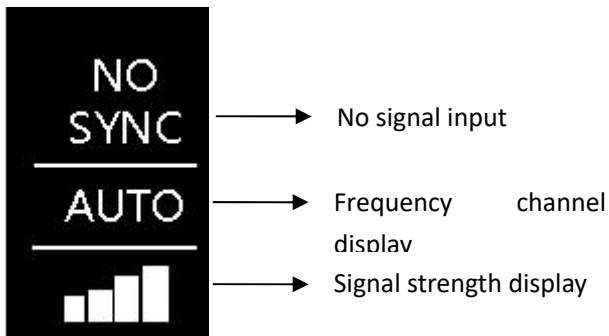
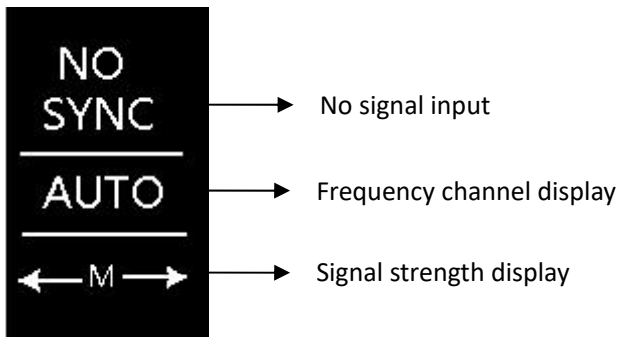

Fig. 1
Fig. 3
- (11) **SDI OUT:** SDI : See Fig. 1
- (12) **DC in:** Support 7~34V wide voltage input.
See Fig. 1
When the transmitter has no signal input, see Fig. 3
(3) Switch on both FLOW6500 transmitter and receiver, “Power” indicator light up, OLED screen show “WAIT...” then jump to initial interface, see fig.1 or fig.3; Wait until “Link” and “Video” indicator light up, the transmitter and receiver have identifiable signal inputs and connected successfully. If the transmitter and receiver have identifiable signal inputs but fail to establish a connection, the “link” indicator will flash.
“Power” indicator light up, OLED screen show “WAIT...” then jump to initial interface, see fig.1 or fig.3; Wait until “Link” and “Video” indicator light up, the transmitter and receiver have identifiable signal inputs and connected successfully, right push the joystick to “PREF” interface, see fig.11.